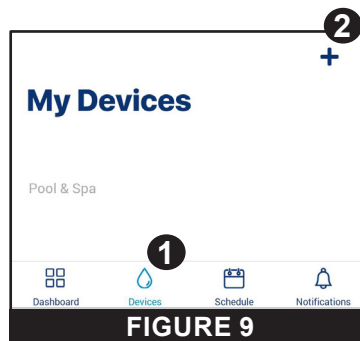

FIGURE 9
- At the Account Dashboard, press the Devices tab (1).
- The My Devices screen will display (FIGURE 9). Press the “+” symbol (2).